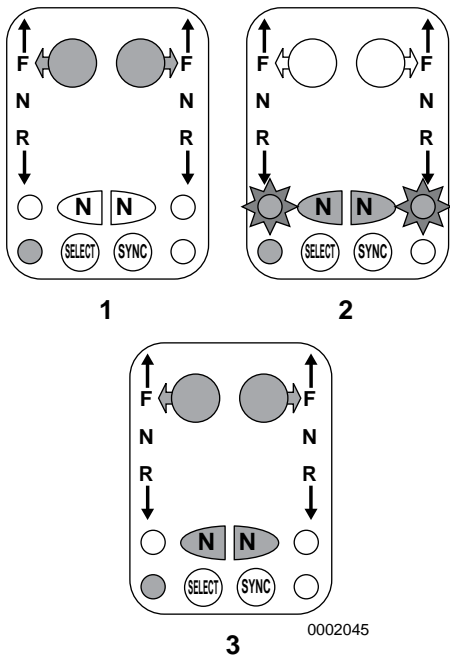

Figure 14
1. Move the engine's lever to an in-gear idle position (Forward Idle or Reverse Idle) (**Figure 14, (1)**) and press the N (neutral) button (**Figure 14, (2)**) next to this lever on the control head. The N (neutral) lamp (**Figure 14, (2)**) will flash to indicate that the Split Range Throttle is engaged.
Return the engine lever to a Gear Idle position (Forward Idle or Reverse Idle) (**Figure 14, (3)**). Press the N (neutral) button next to the lever on the control head. The N (Neutral) lamp will stop flashing, indicating that the Split Range Throttle has been disengaged.